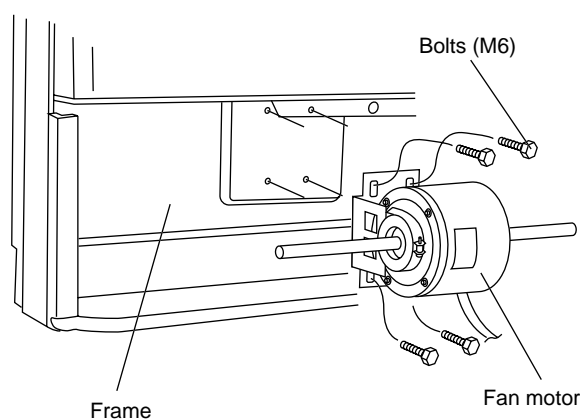

Fig.15
- (4) Remove the 4 bolts to remove the fan motor from the frame. (Fig. 15)